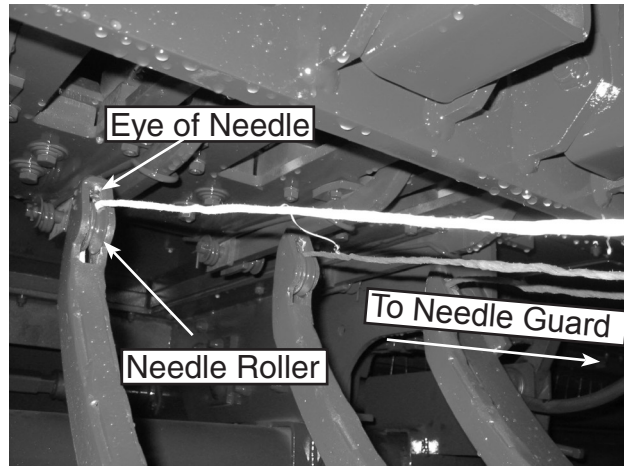

Figure 32 - Twine Over Rollers
7. Route Twine through eye of needle and over the roller (see Figure 32).